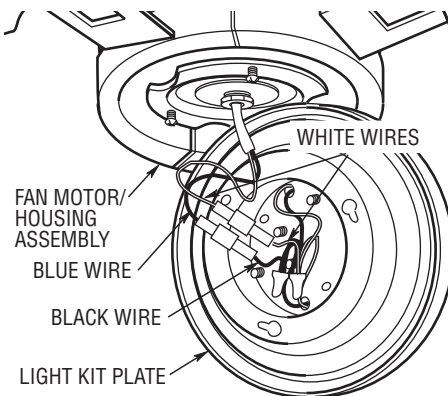

Figure 21
1. Detach the light kit plate from the fan motor/housing assembly by removing one screw and loosening the two other screws (located in the keyholes). Rotate the light kit plate counter-clockwise to disengaging the screws in the two key hole slots (Figure 21).